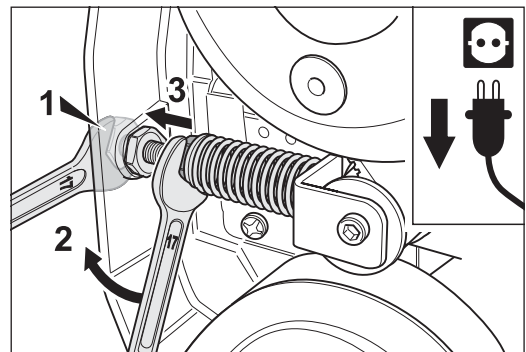

Fig. 77 Turn the clamping nut back to the counter nut.
- 5 To expand the spring, now turn the clamping nut back to the counter nut (fig. 77).